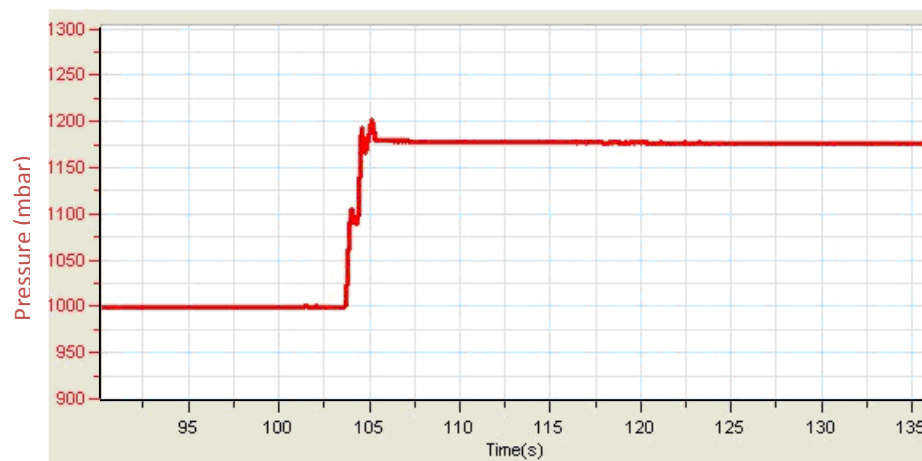

Figure 3
3. Press the stoppers. The pressure should rise a little and then remain constant (see Figure 3).